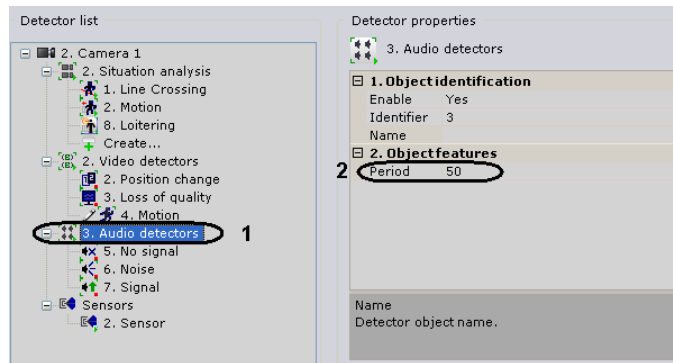

Fig. 6.5—17 Setting the general parameters of audio detectors
1. In the detector list, highlight an **Audio detector** object (Fig. 6.5—17, 1) which offers a means of analyzing the audio signal from a microphone connected to the desired video camera.
2. In the **Period** field (see Fig. 6.5—17, 2), enter the time in milliseconds after which the next section of the audio stream will be processed by the audio detectors. The value should be in the range [0, 65535]. If the value is 0, each section of the audio stream is processed.